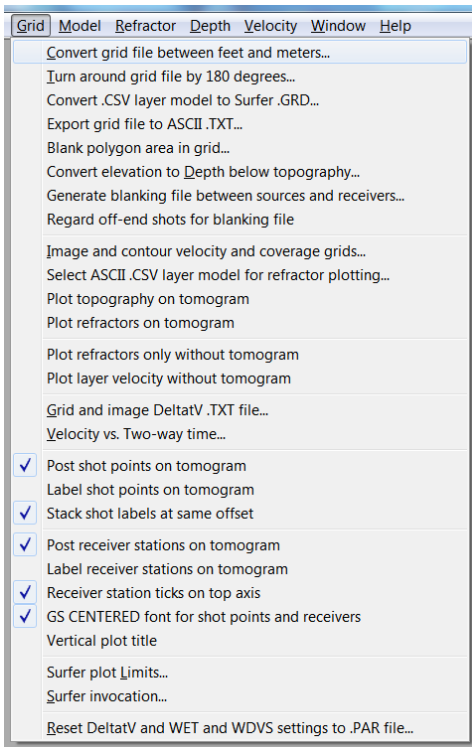

Fig. 9 : Grid menu setting
- uncheck **Grid|Label shot points on tomogram**. Check **Grid|Receiver station ticks on top axis** (Fig. 9).